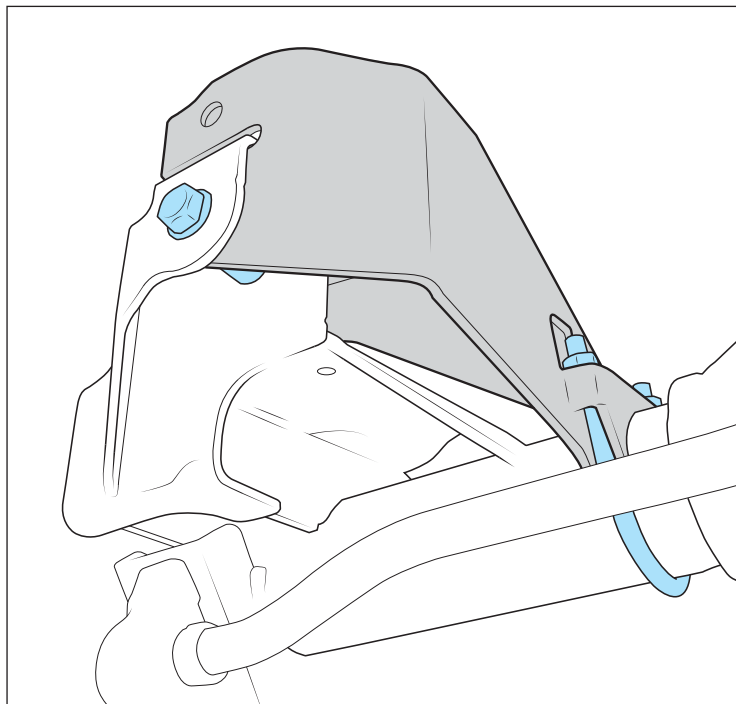

Figure 11
15. Install AEV track bar tower in orientation shown (fig. 11). Use the AEV supplied M14 bolt and crush sleeve in the factory location with factory flag nut. Use the provided U-bolt around axle tube. Once both pieces are started, torque U-bolt nuts to 30 lb-ft. Torque the M14 bolt to 130 lb-ft.